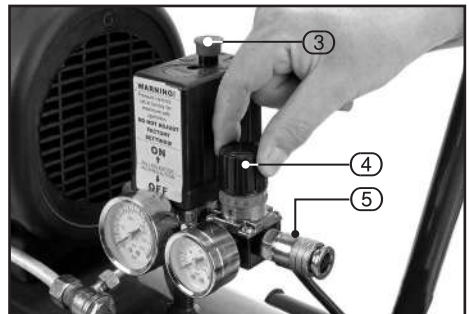

FIG.3
8.2 INITIAL STARTUP – FIG.3
- Insert a euro connector into the air outlet connector (5) and open the regulator fully.
- Turn the compressor on by pulling the pressure switch On/Off (3) button up.
- Turn the regulator dial (4) fully counter-clockwise allowing pressure to build up. Once the maximum pressure is reached, the pressure switch will automatically turn the machine off.